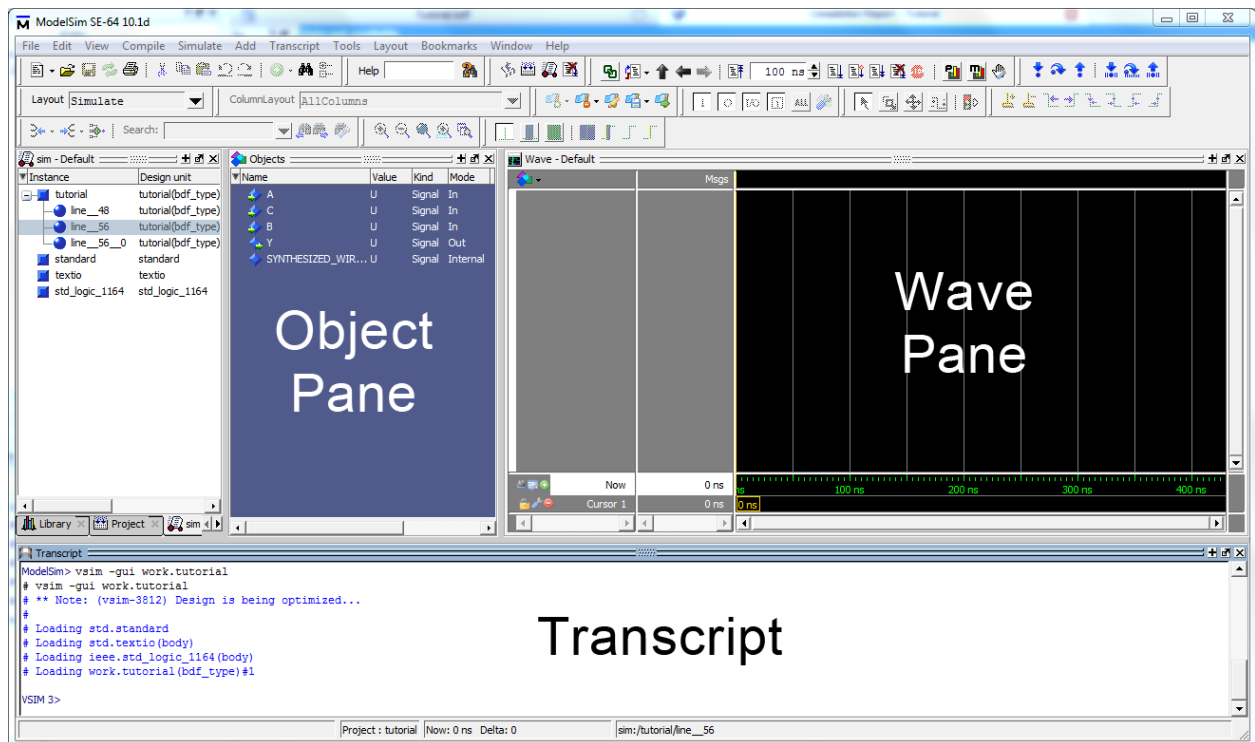

Figure 1.5: ModelSim screen after selecting Start Simulation.
3. Click the OK button. The Start Simulation window will close, and simulation mode will start with a sim pane on the left, an Objects pane in the center, a Wave pane on the right, and a Transcript pane on the bottom as shown in Figure 1.5. If the ModelSim screen does not automatically launch those panes shown in Figure 1.5, use the View menu to open any missing windows.